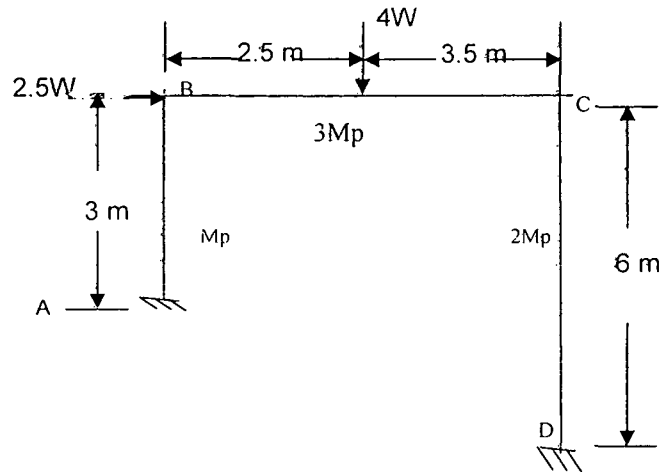

Figure 15.(a)
15. a) Find the value of  $W$  at collapse for the portal frame loaded as shown in Fig. 15.a.